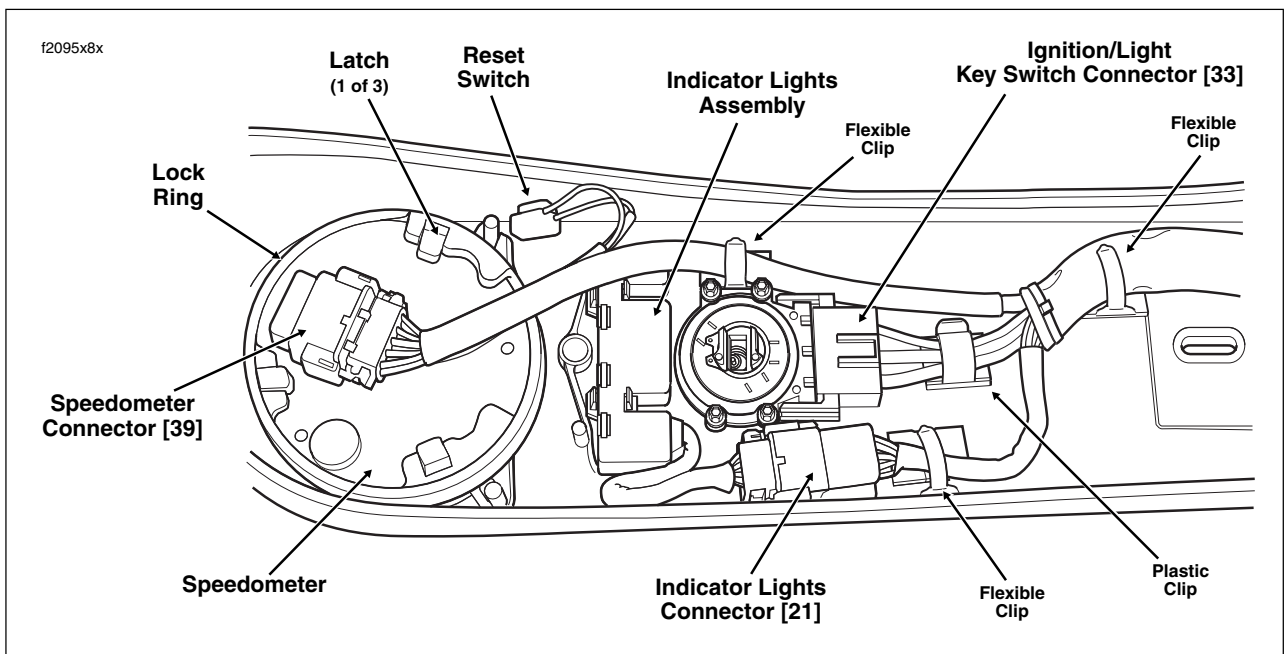

Figure 8-117. Instrument Console Assembly (FLHR/C)
11. See Figure 8-117. Gently pry the three latches upward to release the lock ring from the back of the speedometer.
5. If released, position the speedometer harness so that it runs the length of the console on the left side. Bend the flexible metal clip to capture the harness conduit. See Figure 8-117.